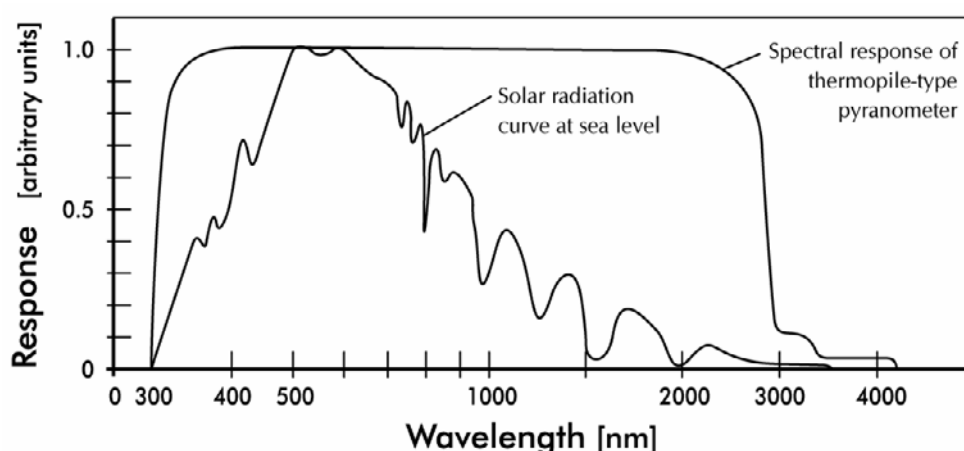

Figure 9 Solar irradiance spectrum at the Earth's surface and pyranometer response
The spectrum of the solar radiation reaching the Earth's surface is in the wavelength range between 280 nm and 4000 nm, extending from ultraviolet (UV) to the far infrared (FIR) as shown in Figure 9. Due to the excellent physical properties of the glass dome and black absorber paint, Kipp & Zonen CMP/CMA series radiometers are equally sensitive in a wide spectral range. 97-98% of the total energy will be absorbed by the thermal detector. The CMP 22 pyranometer has a wider spectral range due to the quartz domes used in its construction.